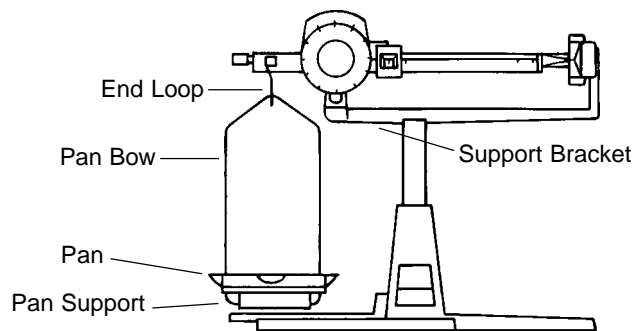

Figure 6.
8. Place the pan on the pan support and insert the pan bow in the upper notch of the end loop as shown in Figure 6.